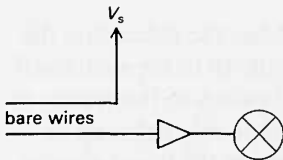

Figure C70
- 20(P)** The circuit shown in figure C70 is a rain detector. The indicator lights up when rain falls on the bare wires.